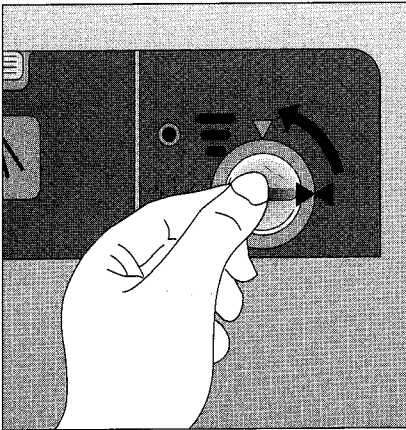

Fig. 7
- To adjust the dispenser, turn the locking lid of the rinse aid dispenser a quarter of a turn anti-clockwise and open. (Fig. 7)